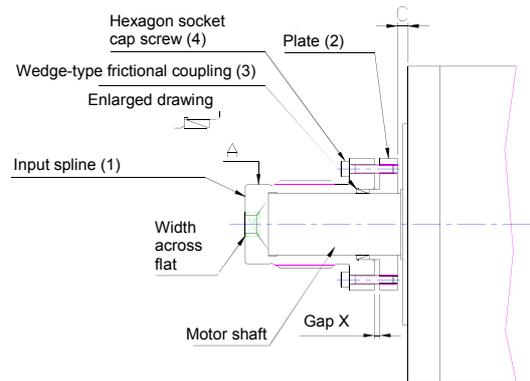

Fig. 5-9
- Step 1** • Assemble the wedge-type frictional coupling (3) into the input spline (1) as shown in Fig. 5-9.
- Step 2** • Assemble the plate (2) into the input spline (1), and then temporarily secure it with the hexagon socket head cap screws (4).
- Step 3** • Press the hole base of the input spline (1) onto the edge of the motor shaft completely. (During assembly, the input gear slightly slides.)
- Step 4** • Tighten the hexagon socket head cap screws (4) with the recommended tightening torque. After tightening, check that the gap X is equal at any point along the circumference. (Reference: Table 5-1 in “5.2 Bolt tightening torque”)
- Check dimensions C to see if the input spline (1) has been assembled as in the specified dimensions. For dimensions C, refer to “Outer dimensions” drawing.